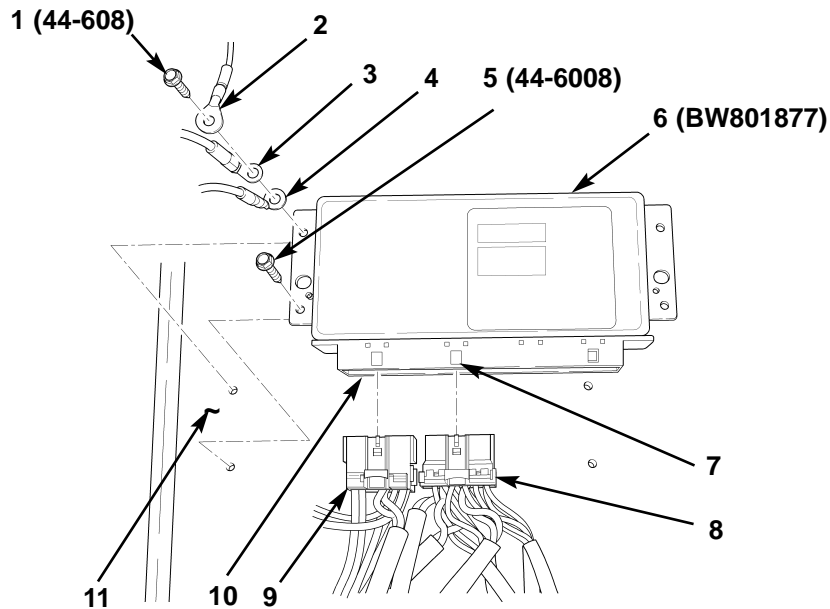

Figure 75. Installing ABS ECU.
6. Install new ABS ECU (figure 75, item 6) on firewall (figure 75, item 11) with three new screws (figure 75, item 5).
7. Connect three black ground wires (figure 75, items 2, 3, and 4) to ECU (figure 75, item 6) and firewall (figure 75, item 11) with new screw (figure 75, item 1).
8. Connect harness connectors (figure 75, items 8 and 9) to ECU receptacles (figure 75, items 7 and 10).